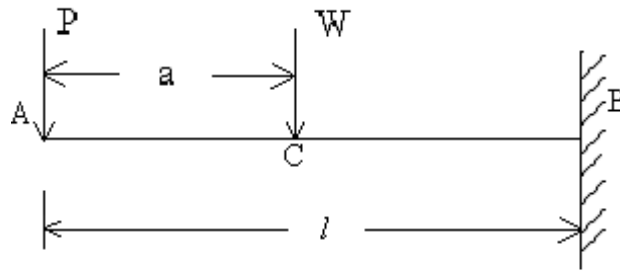

Figure 6
6. For a cantilever of length  $L$  and loaded with a point load  $P$  at its free end as shown in figure 6, the deflection equation (with  $x=0$  at the free end) is given as  $y = -(P/6EI)(2L^3 - 3L^2x+ x^3)$ . Use the Maxwell reciprocal theorem to determine the deflection of free end of the cantilever when a load  $W$  is applied at a distance 'a' from the free end. [16]